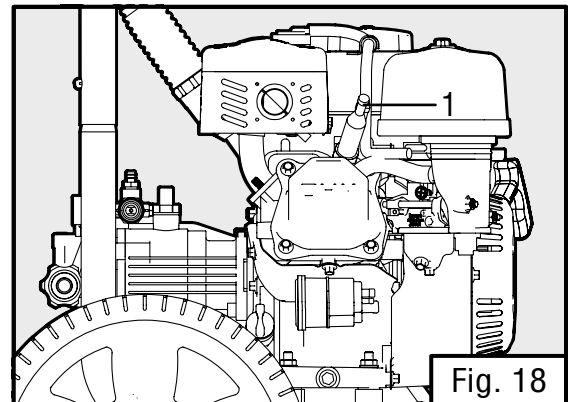

Fig. 18
TO INSPECT THE SPARK PLUG (FIG. 18 & 19):
1. Remove spark plug boot (Fig. 18 - 1). Be careful not to tear insulation or wiring.